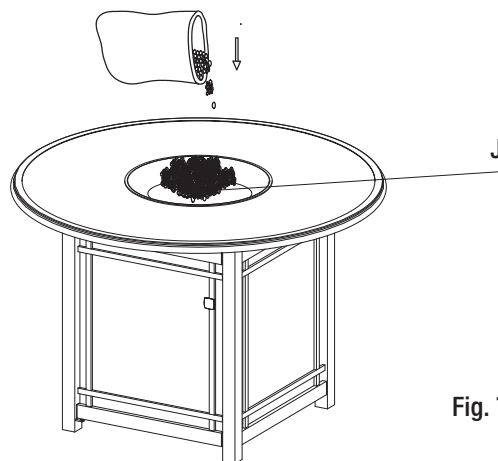

Fig. 7
- Remove the lid (A) and place glass beads (J) into the fire bowl, making sure to keep the igniter block (#6) open. (Fig.7)